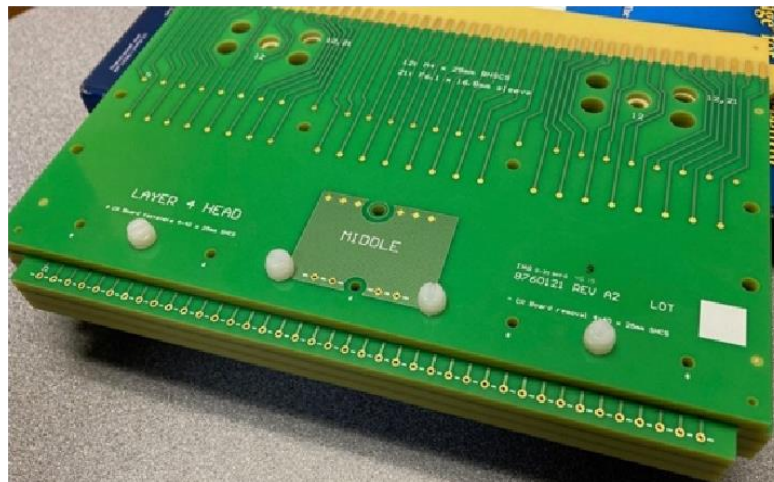

Figure 9 – Nylon screw locations.
- 9.2.11 Insert a nylon screw into the holes along the near edge of the board as indicated in *Figure 9* (the nylon screws should align with threaded inserts in the X layer board). Tighten the screws until they are all snug against the board. Then starting from one edge tighten each screw in succession half a turn at a time, gradually closing the gap between the boards. If there is excessive resistance while tightening the nylon screws, stop, and check that all of the pins are aligned to their respective sockets.